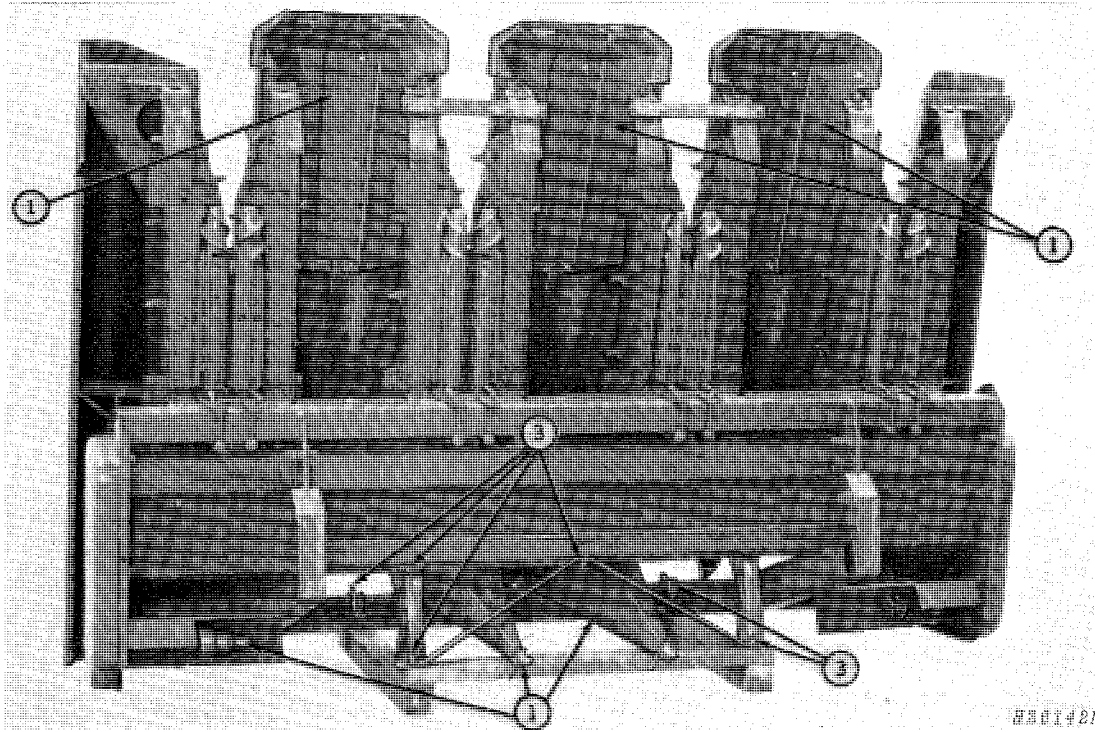

Fig. 85-Removing Gatherer Points and Parts
1. After corn head has been removed to area where it is to be assembled, remove center gatherer points and shields, and outer gatherer points (Fig. 85). Cut all wires and place parts out of way for later assembly.
3. Remove clamps and uprights that attach corn head to skid (Fig. 85).